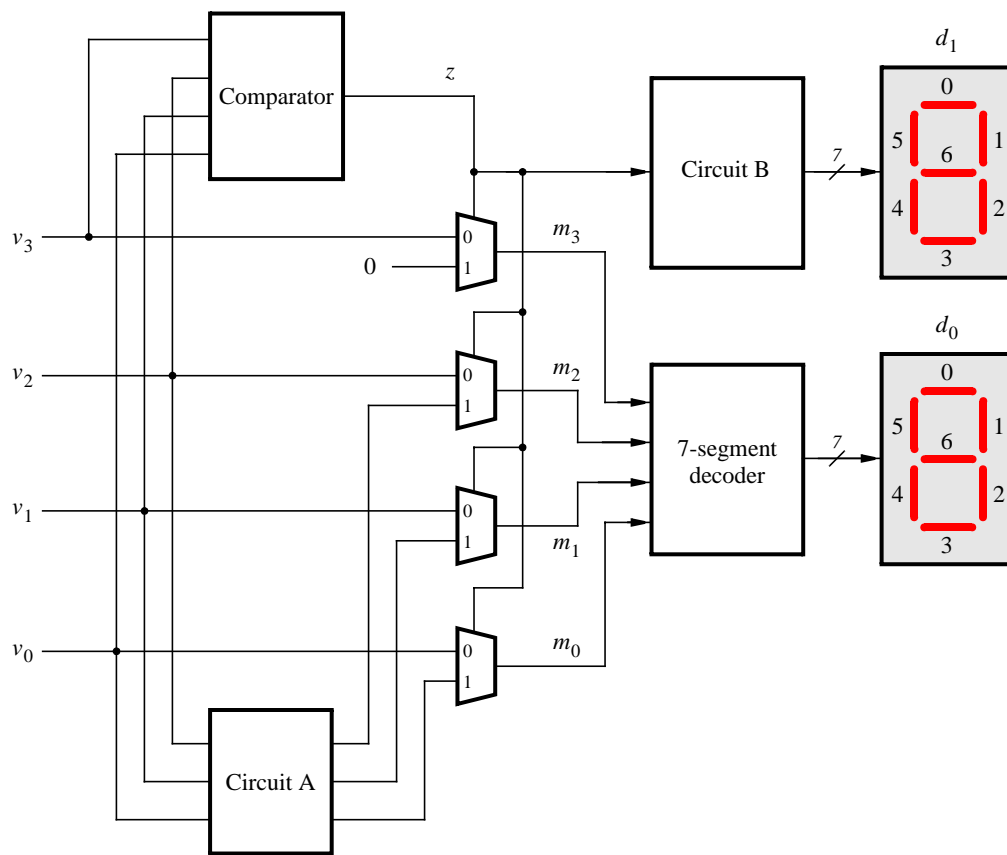

Figure 1. Partial design of the binary-to-decimal conversion circuit.
You are to design a circuit that converts a four-bit binary number $V = v_3v_2v_1v_0$ into its two-digit decimal equivalent $D = d_1d_0$. Table 1 shows the required output values. A partial design of this circuit is given in Figure 1. It includes a comparator that checks when the value of V is greater than 9, and uses the output of this comparator in the control of the 7-segment displays. You are to complete the design of this circuit by creating a VHDL entity which includes the comparator, multiplexers, and circuit *A* (do not include circuit *B* or the 7-segment decoder at this point). Your VHDL entity should have the four-bit input V , the four-bit output M and the output z . The intent of this exercise is to use simple VHDL assignment statements to specify the required logic functions using Boolean expressions. Your VHDL code should not include any IF-ELSE, CASE, or similar statements.
3. Augment your VHDL code to include circuit B in Figure 1 as well as the 7-segment decoder. Change the inputs and outputs of your code to use switches SW_{3-0} on the DE2 board to represent the binary number V , and the displays $HEX1$ and $HEX0$ to show the values of decimal digits d_1 and d_0 . Make sure to include in your project the required pin assignments for the DE2 board.